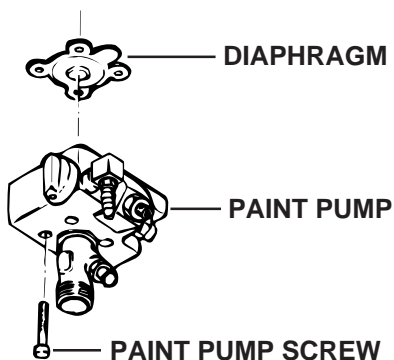

Figure 16.-Diaphragm Parts and Their Relationship to Other Parts of the Sprayer.
4. When a new diaphragm is installed, a new insert ring (see Figure 16) should also be installed. Install the new Insert. Be sure to put the flat surface of the insert ring into the flat surface of the paint pump.